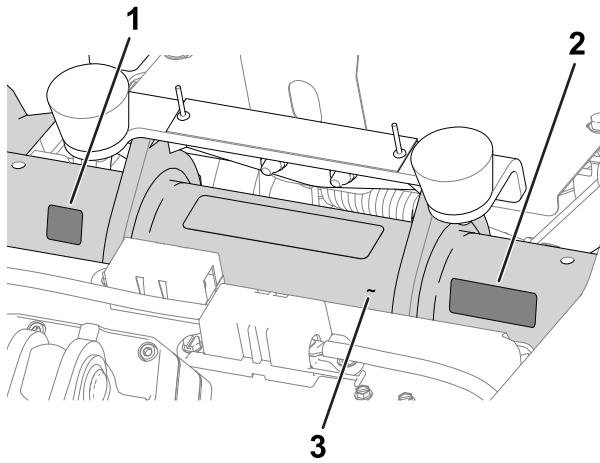

Figure 16
- **Production year decal** and **CE/UKCA decal**: apply the decals on the frame tube below the seat and serial plate; refer to Figure 16.